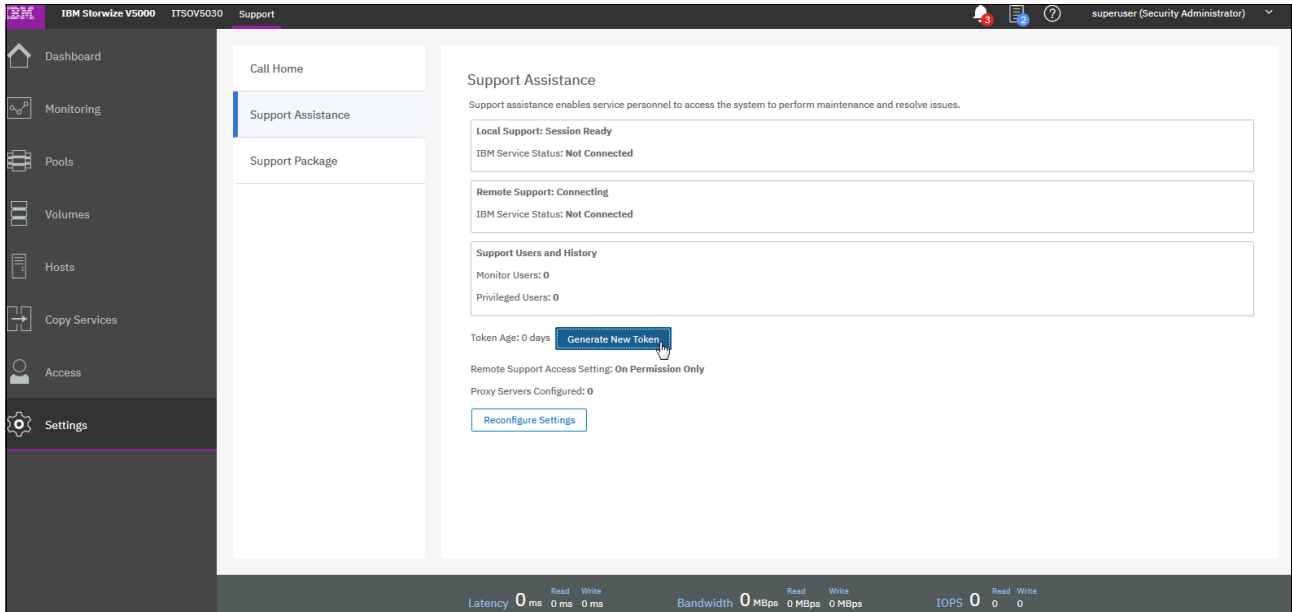

Figure 12-111 Generate New Token
7. A new Token can be generated by clicking **Generate New Token**, as shown in Figure 12-111.